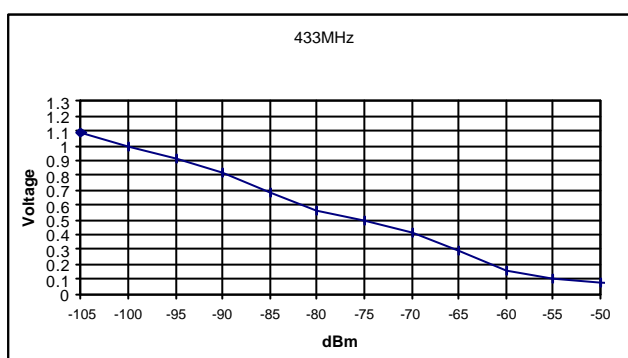

Figure 4 RSSI Output
2. The serial inputs and outputs are intended for connection to a UART or similar low voltage logic device. Do not connect any of the inputs or outputs directly to an RS232 port. The transceiver module may be permanently damaged by the voltages (+/- 12V) present on RS232 signal lines. See Application Circuit (Figure 4) for typical connection to an RS232 port via MAX232 interface IC.